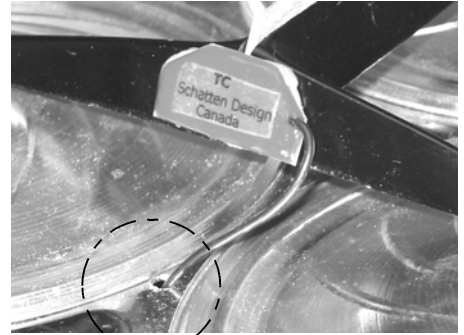

Figure 6
2) Drill a small 1/4" hole through the deck in the position shown in *figure 6*. Make sure that the hole is clean and has no sharp burrs or edges. Insert the supplied rubber grommet into the hole.
8) As per *figure 6*, press the pickup into position. Make sure that you hold onto the T bridge while pressing the pickup into place. It helps to seat the pickup if you move it slightly from side to side as you are applying pressure.